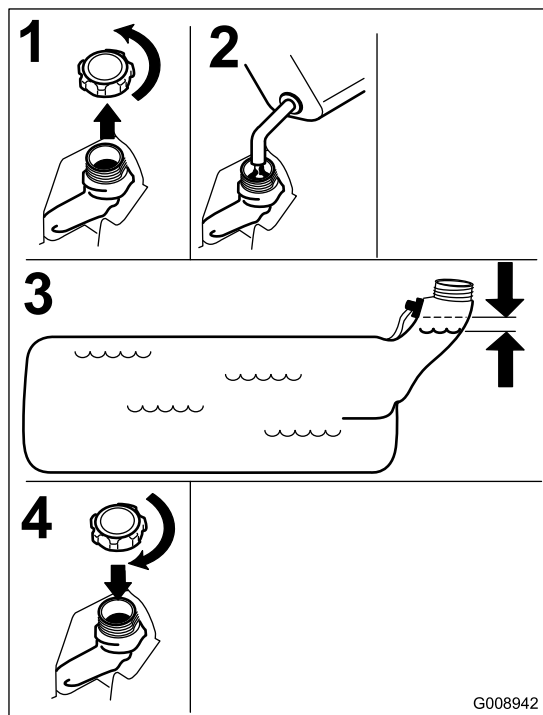

Figure 6
3. Fill the fuel tank. Ensure there is space below the breather valve as shown in Figure 6.